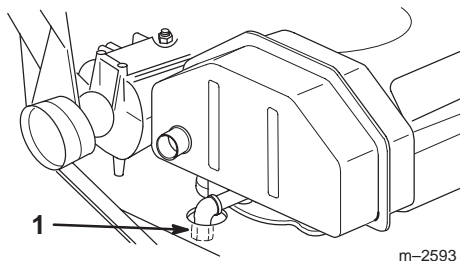

Figure 29
- Place a pan below the oil drain (Fig. 29).
- Remove the oil drain cap (Fig. 29).